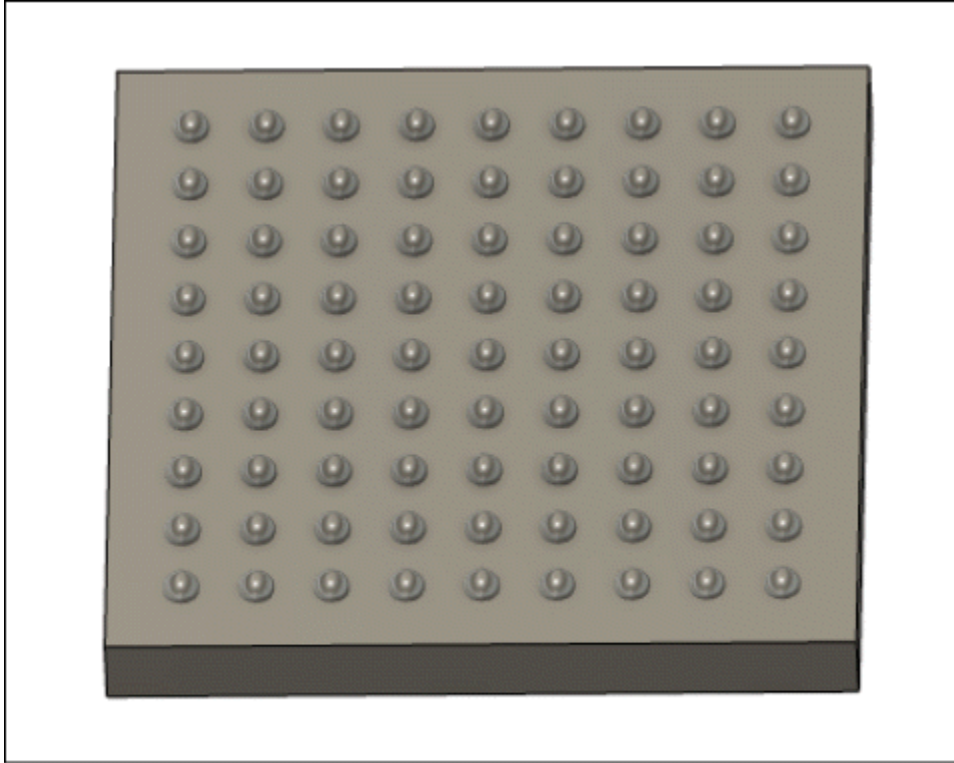

Figure-108. Geometrical pattern created
- After specifying desired parameters, click on the **OK** button from the dialog box. The geometrical pattern will be created; refer to Figure-108.